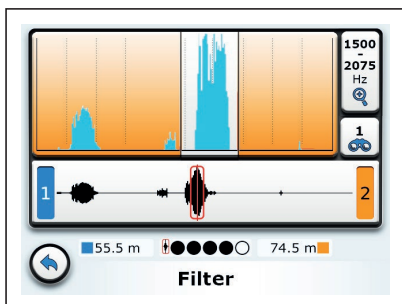

Fig. 20: **Filter** menu
- Tap the **Filter** button. The **Filter** menu appears (fig. 20).
The **Filter** menu will return to its default view (fig. 20). The second filter limit is set. The **Manual** symbol is visible on the **Current filter** button.